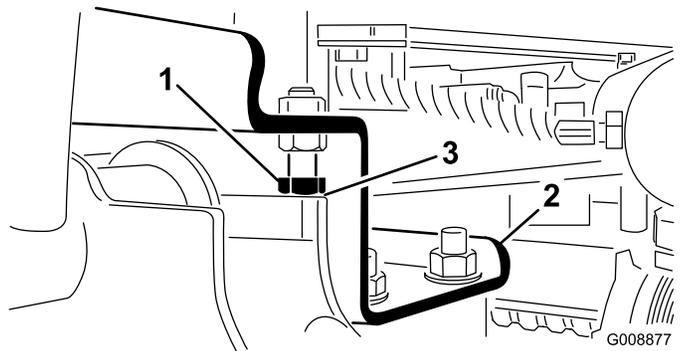

Figure 12
- A. Back off the stop bolts (Figure 12).
2. Check to make sure that the clearance between each lift arm and stop bolt is 0.13 to 1.02 mm (0.005 to 0.040 inches) (Figure 12). If the clearance is not in this range, adjust the stop bolts to attain clearance.